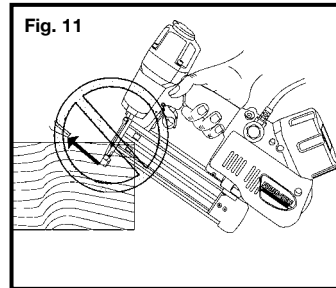

Fig. 11
19. FIRE FASTENERS INTO WORK SURFACE ONLY: never into materials too hard to penetrate. Fig. 11.
21. DO NOT DRIVE FASTENERS on top of other fasteners, or with the tool at too steep an angle: the fasteners can ricochet causing personal injury. Fig. 11.